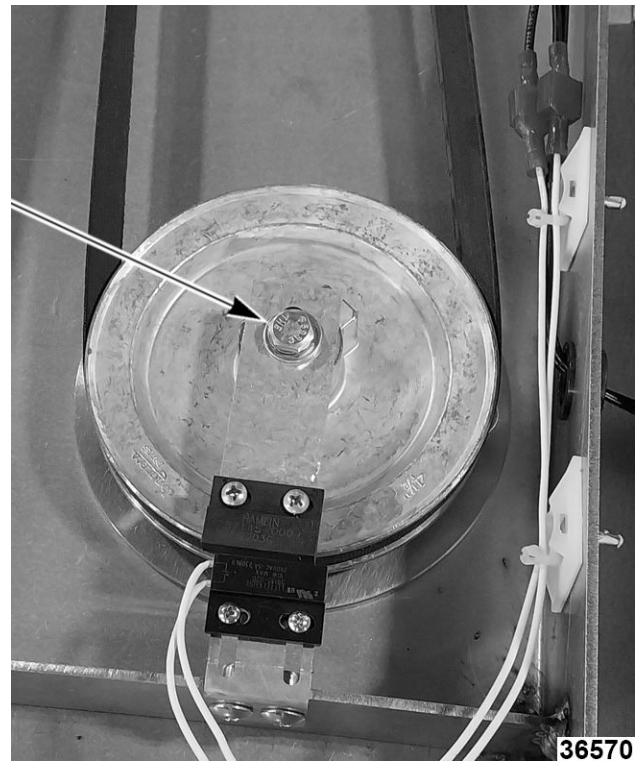

Fig. 20
- 2) Align pointer switch actuator (Fig. 20) sideways to align with pointer switch on top of rotation shaft.